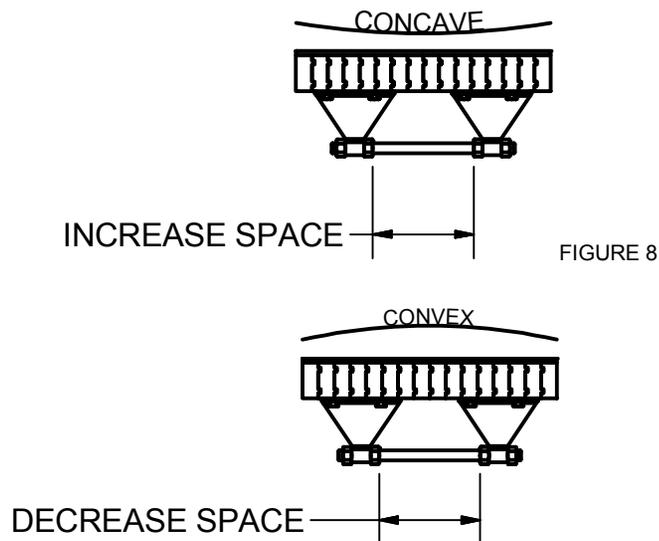

FIGURE 8
- Step 2: Using the climate adjusters attached to the bottom of the play field, create a concave condition across the width of the play field along the entire length. This is recommended for proper play. (See Figure 8) (Check with a straight edge across width at each climate adjuster. A sheet of paper should go under at the center of the straight edge when properly adjusted)